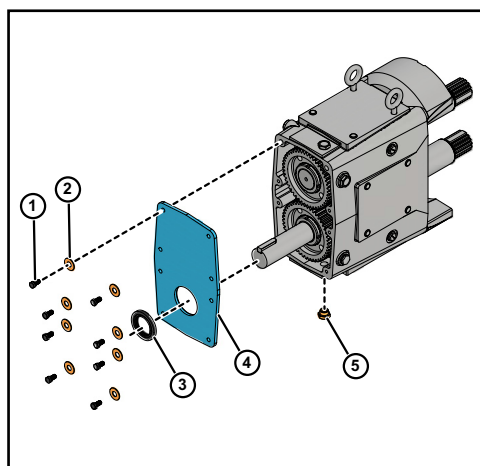

Figure 47 - Remove Gear Case Cover
1. Remove the oil drain plug (5) and drain the oil, as shown in Figure 47.
2. Remove the cap screws (1) and its washer (2) from gear case cover (4), as shown in Figure 47.
3. Pull the cover (4) off the shaft extension, as shown in Figure 47. If the cover sticks, use a soft hammer to loosen it.
5. Using an arbor press, remove the oil seal (3) from the cover (4). Discard the used oil seal, as shown in Figure 47.